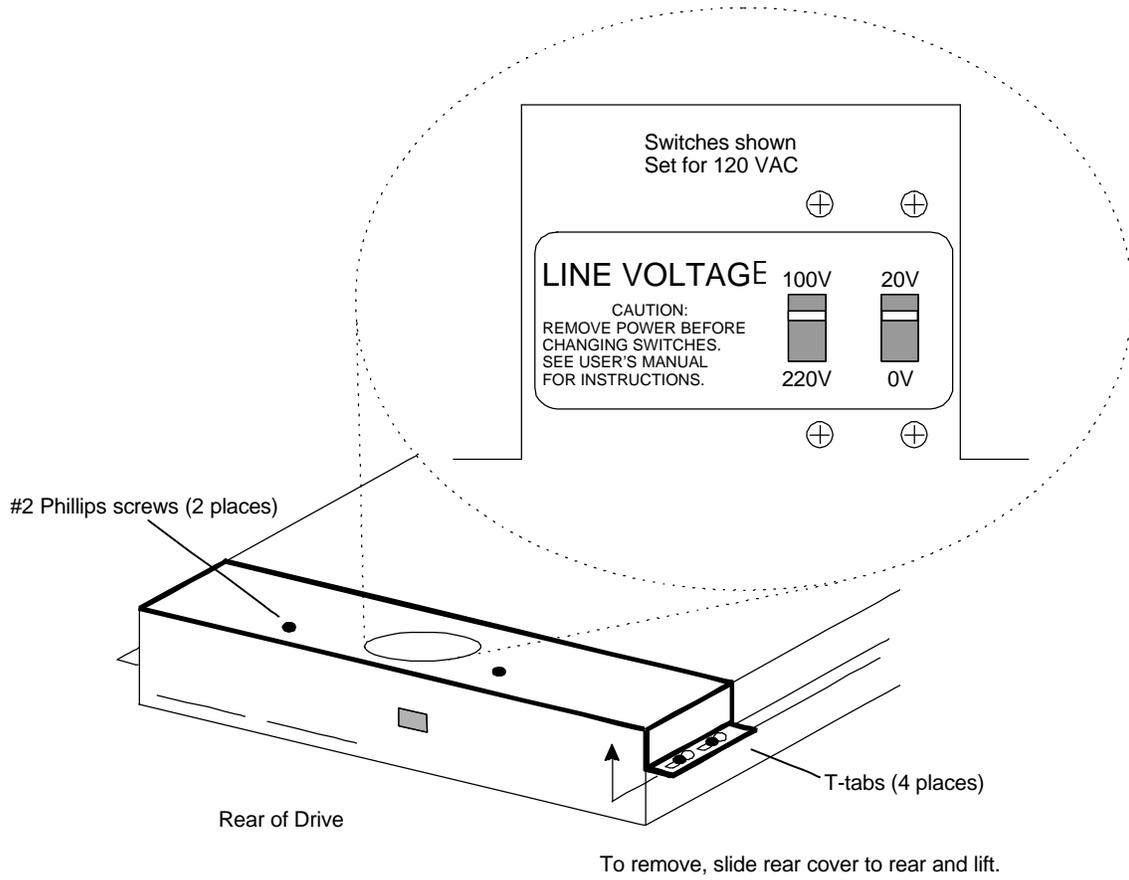

Figure 8-1 AC Power Configuration Switches
4. Lift the cover away to expose the two slide switches that are used to match the drive operating voltage to the available AC line voltage. See Figure 8-1 for details.